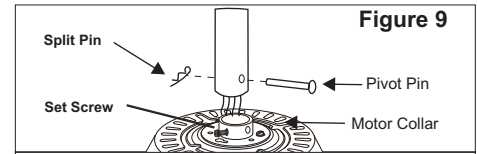
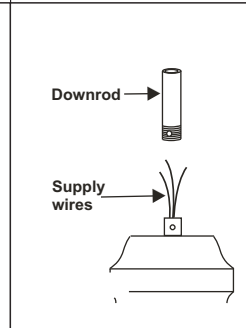

Figure 9
Figure 8
4. Carefully feed fan wires up through the downrod. (Figure 8) Thread the rod into the coupling. Next, line up holes and replace lock pin and hitch pin. Tighten set screws. (Figure 9)